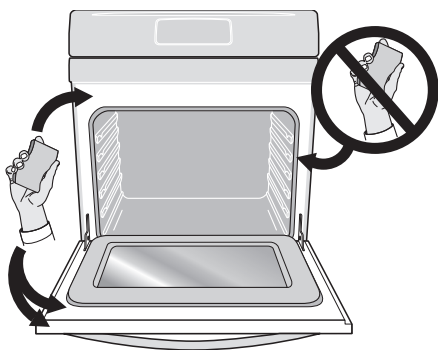

Figure 5: Clean around the oven door gasket
- Do not clean the oven door gasket (Figure 5). The woven material of the oven door gasket is essential for a good seal. Care should be taken not to rub, damage, or remove the gasket.
- Clean any soil from the oven frame, the door liner outside the oven door gasket, and the small area at the front center of the oven bottom. These areas heat sufficiently to burn soil on. Clean with soap and water. These areas are shown in white (Figure 5).